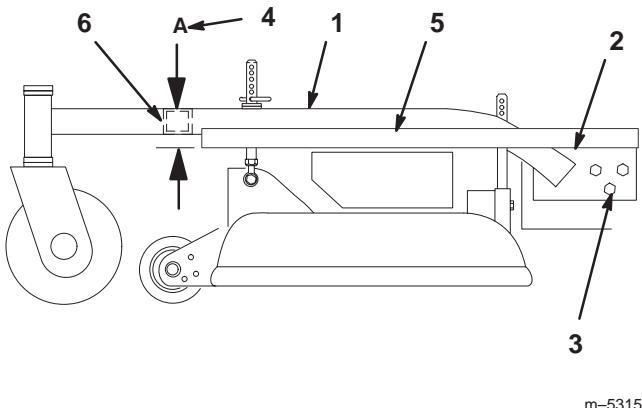

Figure 44
2. Place a long straight edge on top of the engine deck as shown in figure 44.
3. At the carrier frame cross tube, measure location "A" height (Fig. 44). This measurement must be 2–13/16 in., plus or minus a 1/4 in.
5. Loosen the carrier frame mounting bolts on both sides of the machine (Fig. 44).
6. Align the carrier frame and engine deck to match 2–13/16 in., plus or minus a 1/4 in. at location "A" (Fig. 44).